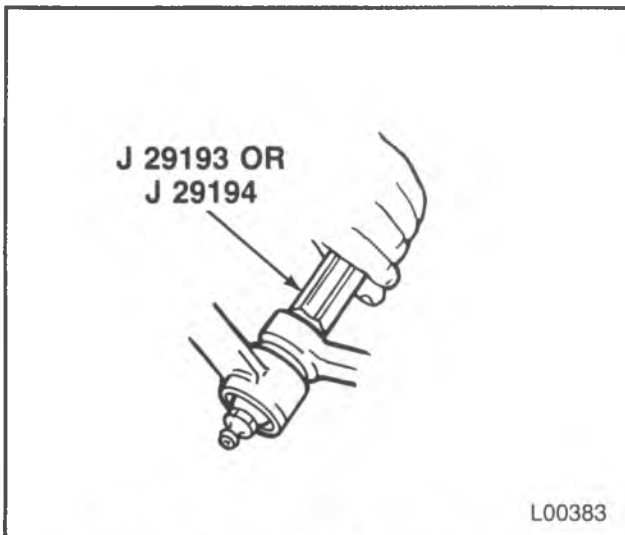

Figure 8 — Seating Ball Stud Tapers
- Relay rod (2) to the idler arm ball stud. Make certain the seal is on the stud. Tighten J 29193 or J 29194 to 54 N·m (40 ft. lbs.) to seat the tapers (figure 8). Remove the tool.
1. Relay rod (2) to the idler arm (1).
2. Relay rod to the pitman arm (5) or relay arm (11) ball stud. Make certain the seal is on the stud. Tighten J 29193 or J 29194 to 54 N·m (40 ft. lbs.) to seat the tapers (figure 8). Remove the tool.
3. Relay rod (2) or connecting rod (8) to the pitman arm ball stud. Make certain the seal is on the stud. Tighten J 29193 or J 29194 (figure 8) to 54 N·m (40 ft. lbs.) to seat the tapers. Remove the tool.